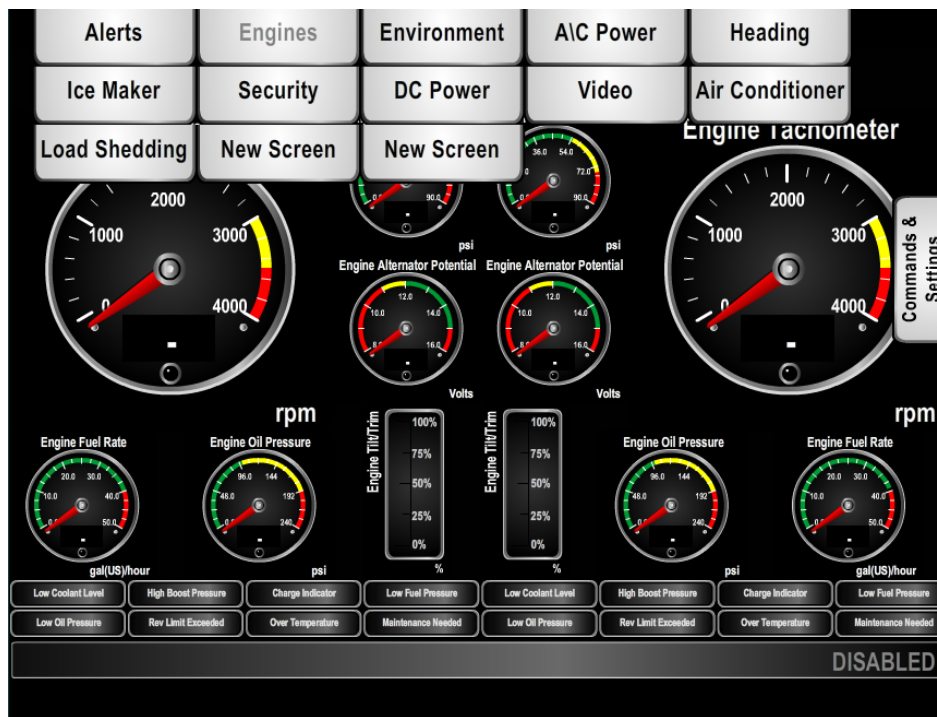

Figure 10 – N2KView[®] Window with Tabs Displayed
- Click anywhere inside the N2KView[®] screen to display the screen tabs as shown in Figure 10 above.